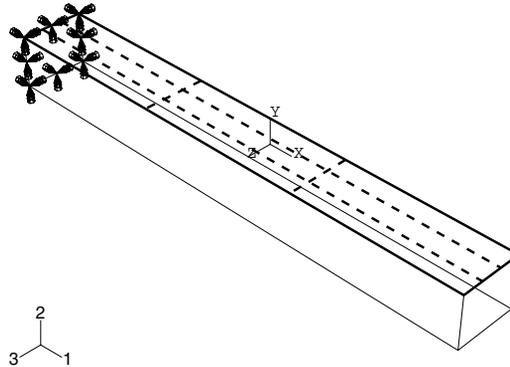

Figure B-10 Selecting the region on which to apply a pressure load.
3. In the viewport, select the top face of the beam as the surface to which the load will be applied. The desired face is shown by the gridded face in Figure B-10.